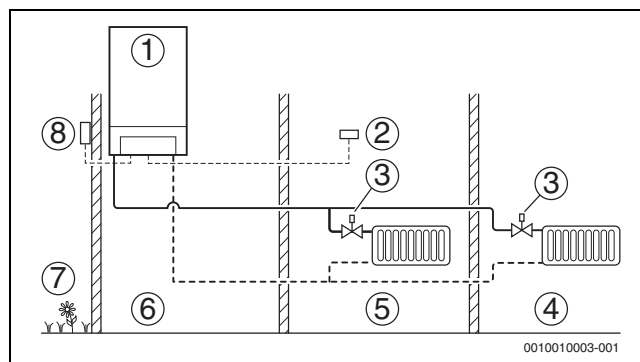

Fig. 25 Principle of weather-compensated control
- With weather-dependent control, the temperature in all rooms is controlled by thermostatically controlled valves mounted on the radiators. The controls can be installed in any location (→ figure 25).